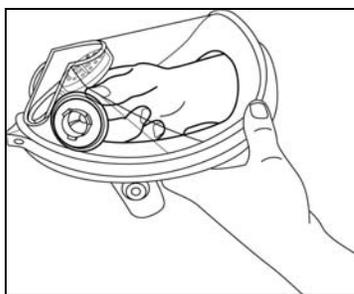
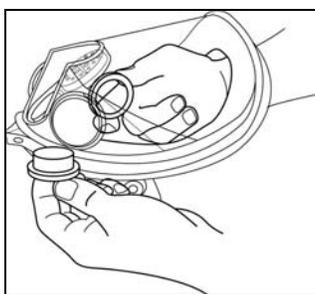

Fig. 21
Fig. 22
2. Remove bayonet ring by rotating counter clockwise $\frac{1}{4}$ turn. (Fig. 21)
3. Remove bayonet from lens assembly. (Fig. 22)
5. Remove bayonet assemblies by rotating bayonet rings counter clockwise ¼ turn (Fig. 21) and removing bayonets from the lens assembly (Fig 22).